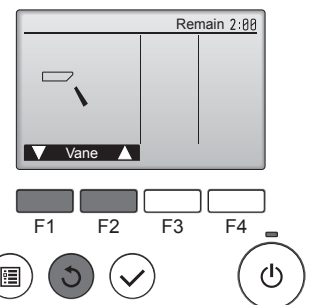

Fig. 7-7
- ① Check the auto vane with the buttons. (Fig. 7-7)
- ② Press the button to return to "Test run operation".
- ③ Press the button.